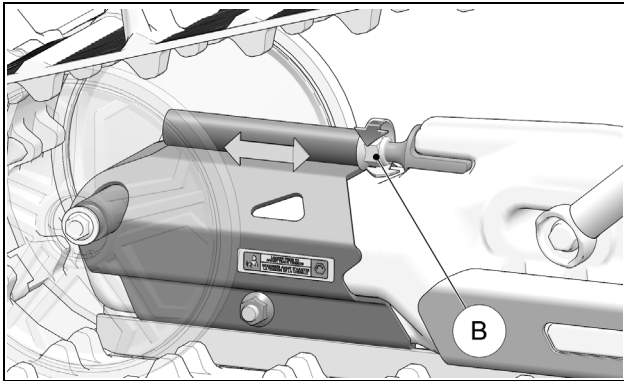

Figure 20
To adjust track tension, turn tension adjustment nut (B) clockwise or counter-clockwise to obtain the recommended track tension. See Figure 20.